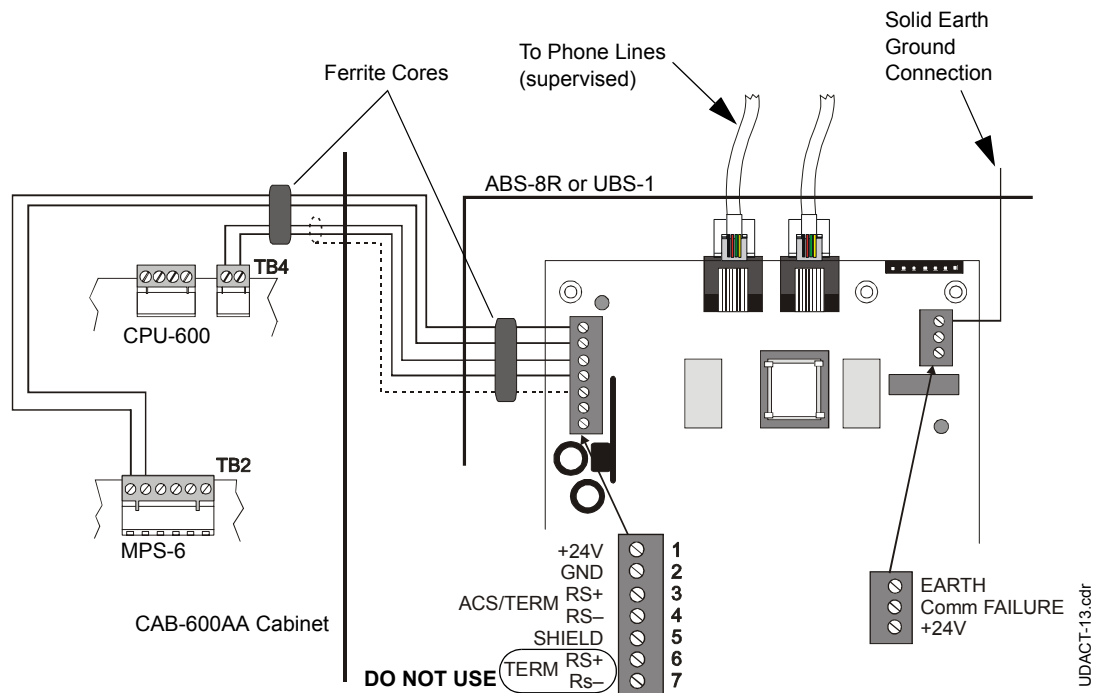
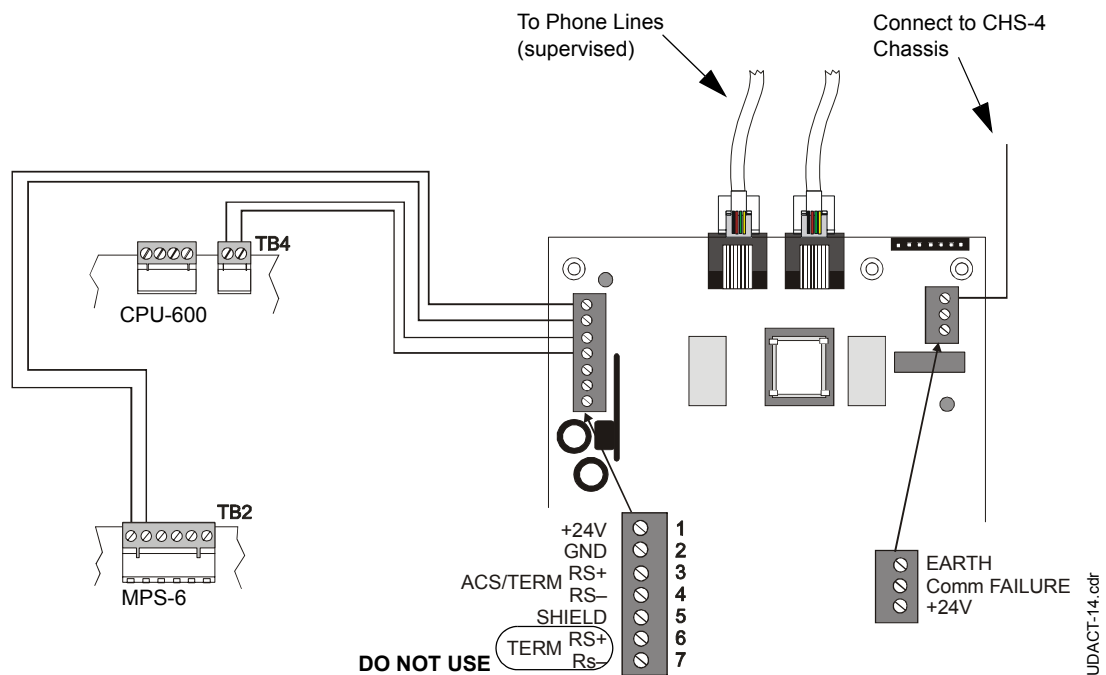

Figure 23 UDACT and AFC-600 in a CAB-AA
Figure 24 UDACT and AFC-600 in CAB-3/4
Refer to Figure 23 and Figure 24 on page 94.
2. Recommended wire is 12 AWG (3.25mm²) to 18 AWG (0.75mm²), twisted pair, shielded cable. Connect only one end of shield: a) shield may be connected to cabinet (earth ground) at fire alarm panel, or b) shield may be connected to TB1 Terminal 5 (Shield) at UDACT as shown in Figure 23.